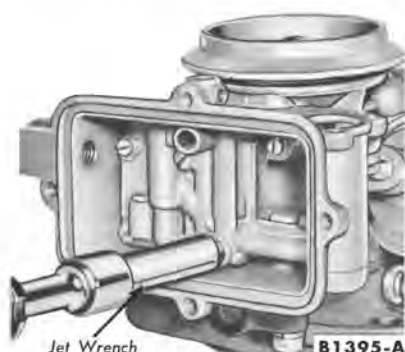

FIG. 7—Jet Removal or Installation
10. Using a jet wrench, remove the main jet (Fig. 7). Remove the main well.